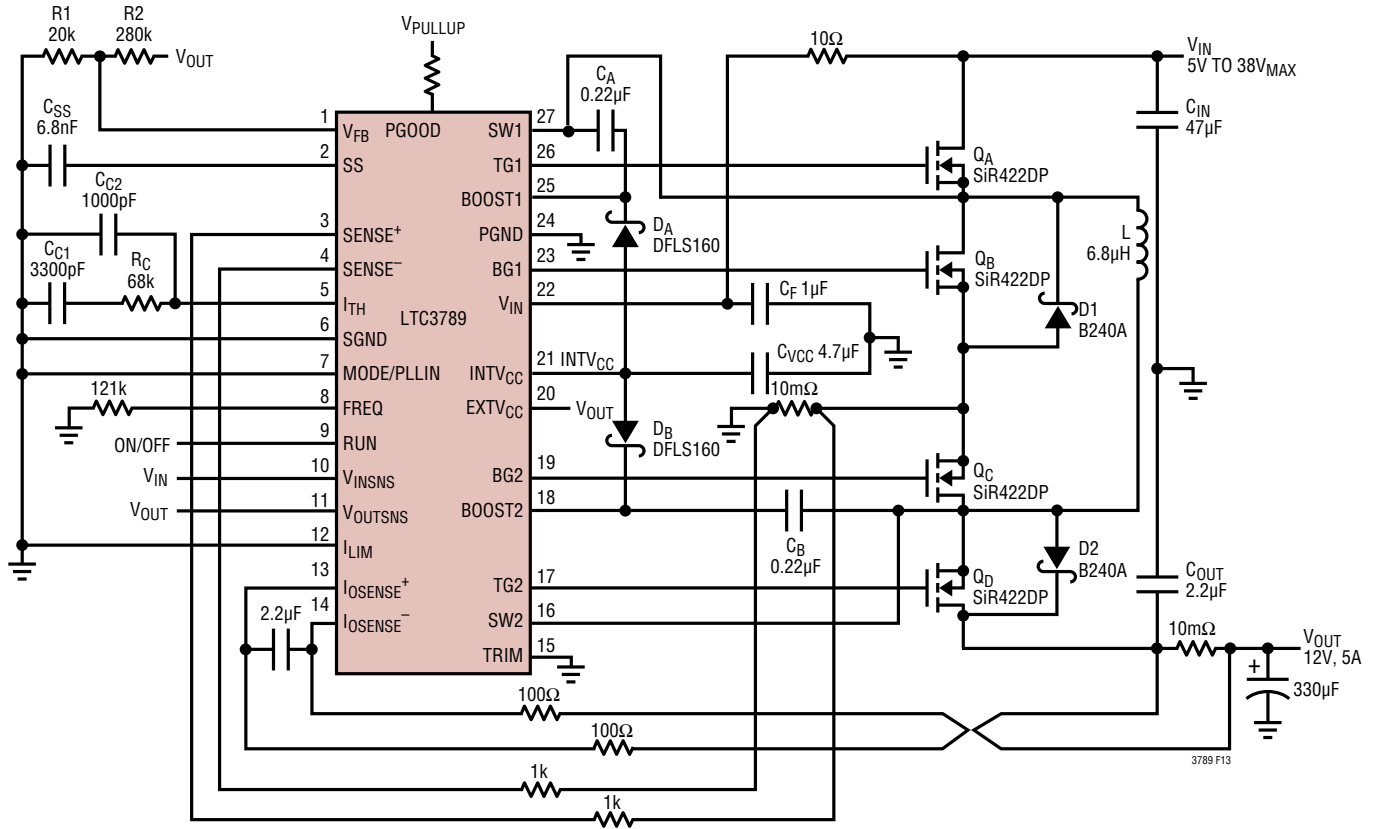

Figure 13. LTC3789 12V/5A, Buck-Boost Regulator
where R1 and R2 are defined in Figure 13.
Referring to Figure 13, the external bootstrap capacitors C_A and C_B connected to the BOOST1 and BOOST2 pins supply the gate drive voltage for the topside MOSFET switches A and D. When the top switch A turns on, the switch node SW1 rises to V_{IN} and the BOOST1 pin rises to approximately $V_{IN} + INTV_{CC}$. When the bottom switch B turns on, the switch node SW1 drops to low and the boost capacitor C_A is charged through D_A from $INTV_{CC}$. When the top switch D turns on, the switch node SW2 rises to V_{OUT} and the BOOST2 pin rises to approximately $V_{OUT} + INTV_{CC}$. When the bottom switch C turns on, the switch node SW2 drops to low and the boost capacitor C_B is charged through D_B from $INTV_{CC}$. The boost capacitors C_A and C_B need to store about 100 times the gate charge required by the top switches A and D. In most applications, a 0.1 μF to 0.47 μF , X5R or X7R dielectric capacitor is adequate.
- Flood all unused areas on all layers with copper. Flooding with copper will reduce the temperature rise of power components. Connect the copper areas to any DC net (V_{IN} or GND). When laying out the printed circuit board, the following checklist should be used to ensure proper operation of the LTC3789. These items are also illustrated in Figure 13.